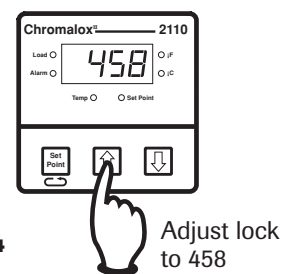

Figure 4.4
2. Press the \uparrow or \downarrow button to adjust the value to the appropriate security number (see *Security Codes and Levels*). Only the value is displayed during adjustment. See Figure 4.4.